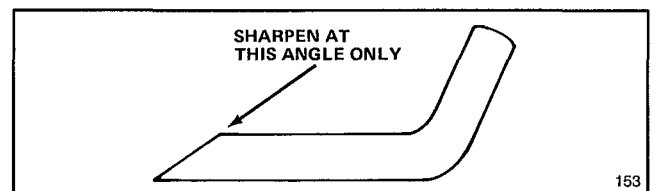

Figure 26
6. **SHARPENING BLADE**—Using a file, sharpen top side of blade (side facing mower housing) and maintain original cutting angle (Fig. 26). The blade will remain balanced if the same amount of material is removed from both cutting edges.